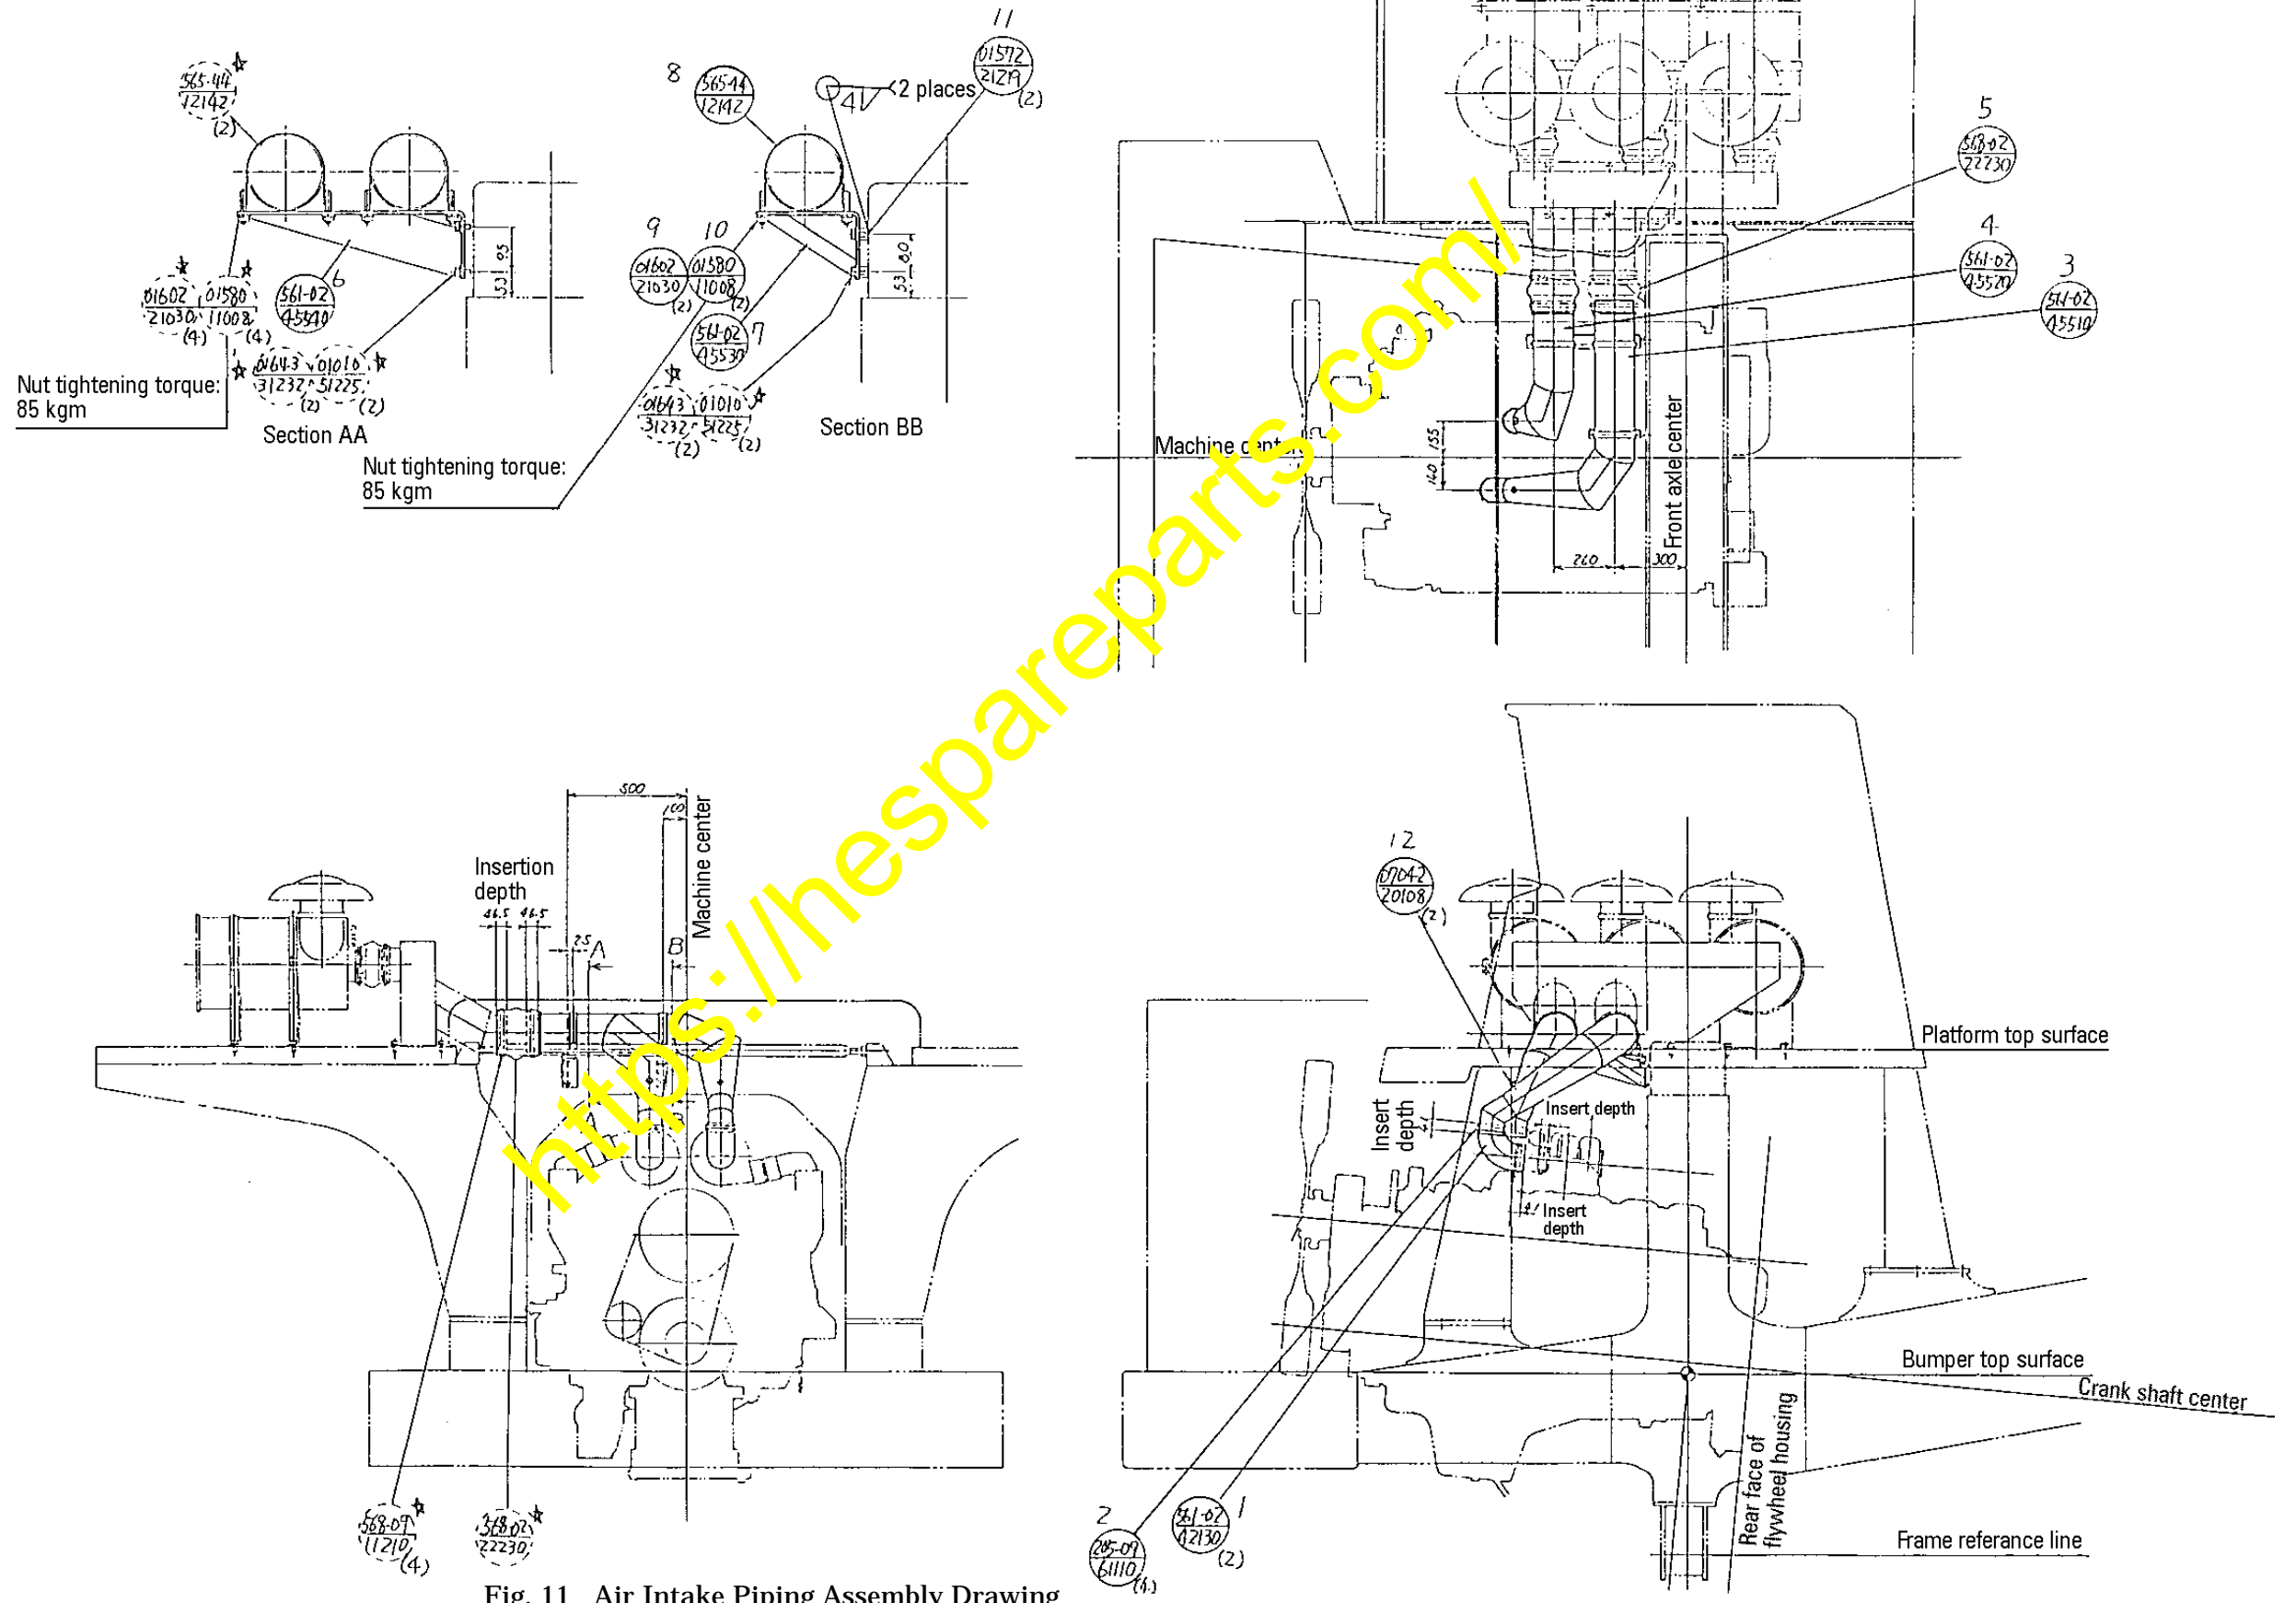

Fig. 11 Air Intake Piping Assembly Drawing
- (2) Weld two SEATS (01672-21219) (11) to FRAME (561-46-31103). (See Fig. 11)
- (3) Install the newly supplied air intake piping. (See Fig. 11)